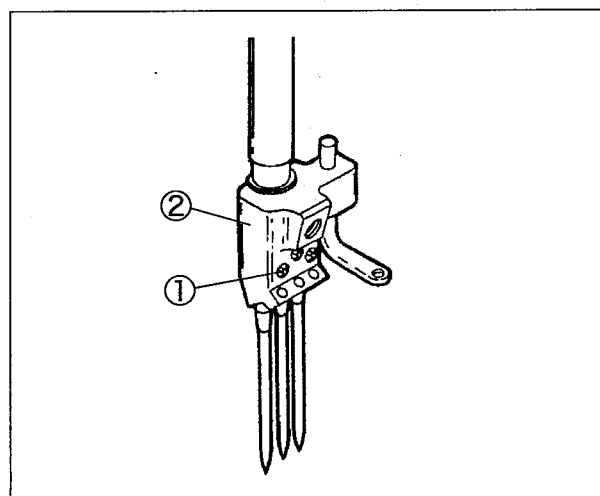
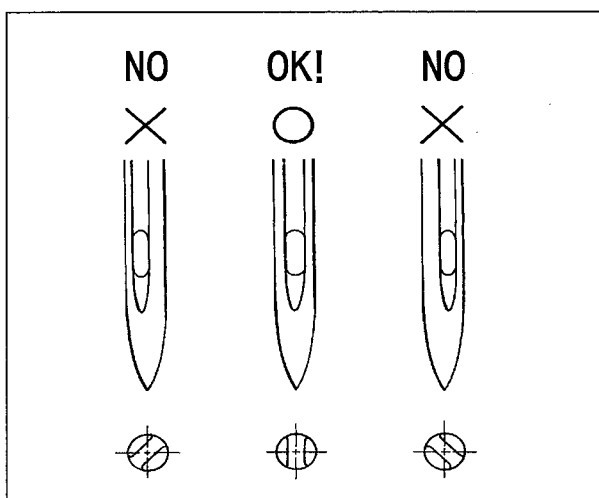

Fig. 28
Fig. 29
- (1) Loosen the screws ① with a screwdriver. (Fig. 28)
- (2) Remove an old needle with a pair of tweezers.
- (3) Insert a new needle into the needle clamp ② as far as it will go with facing its scarf to the right back. (Figs. 29 and 30)
- (4) Tighten the screws ① with a screwdriver.